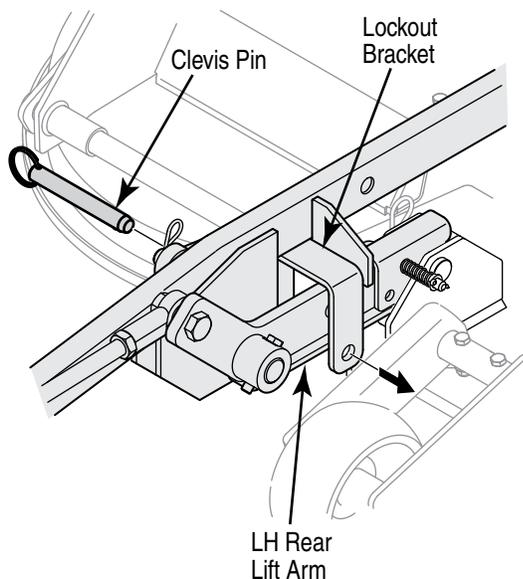

Figure 16
- From either side of the tractor, insert the clevis pin through the lockout bracket, beneath the rear lift arm, to secure the lift arm in the up position. See Figure 16.
- Move to the other side of the tractor and insert the other clevis pin through the lockout bracket to secure the lift arm in the up position. Refer to Figure 16.
- Move to the other side of the tractor and insert the other clevis pin through the lockout bracket and rear lift arm. Secure with the internal cotter pin. Refer to Figure 16.